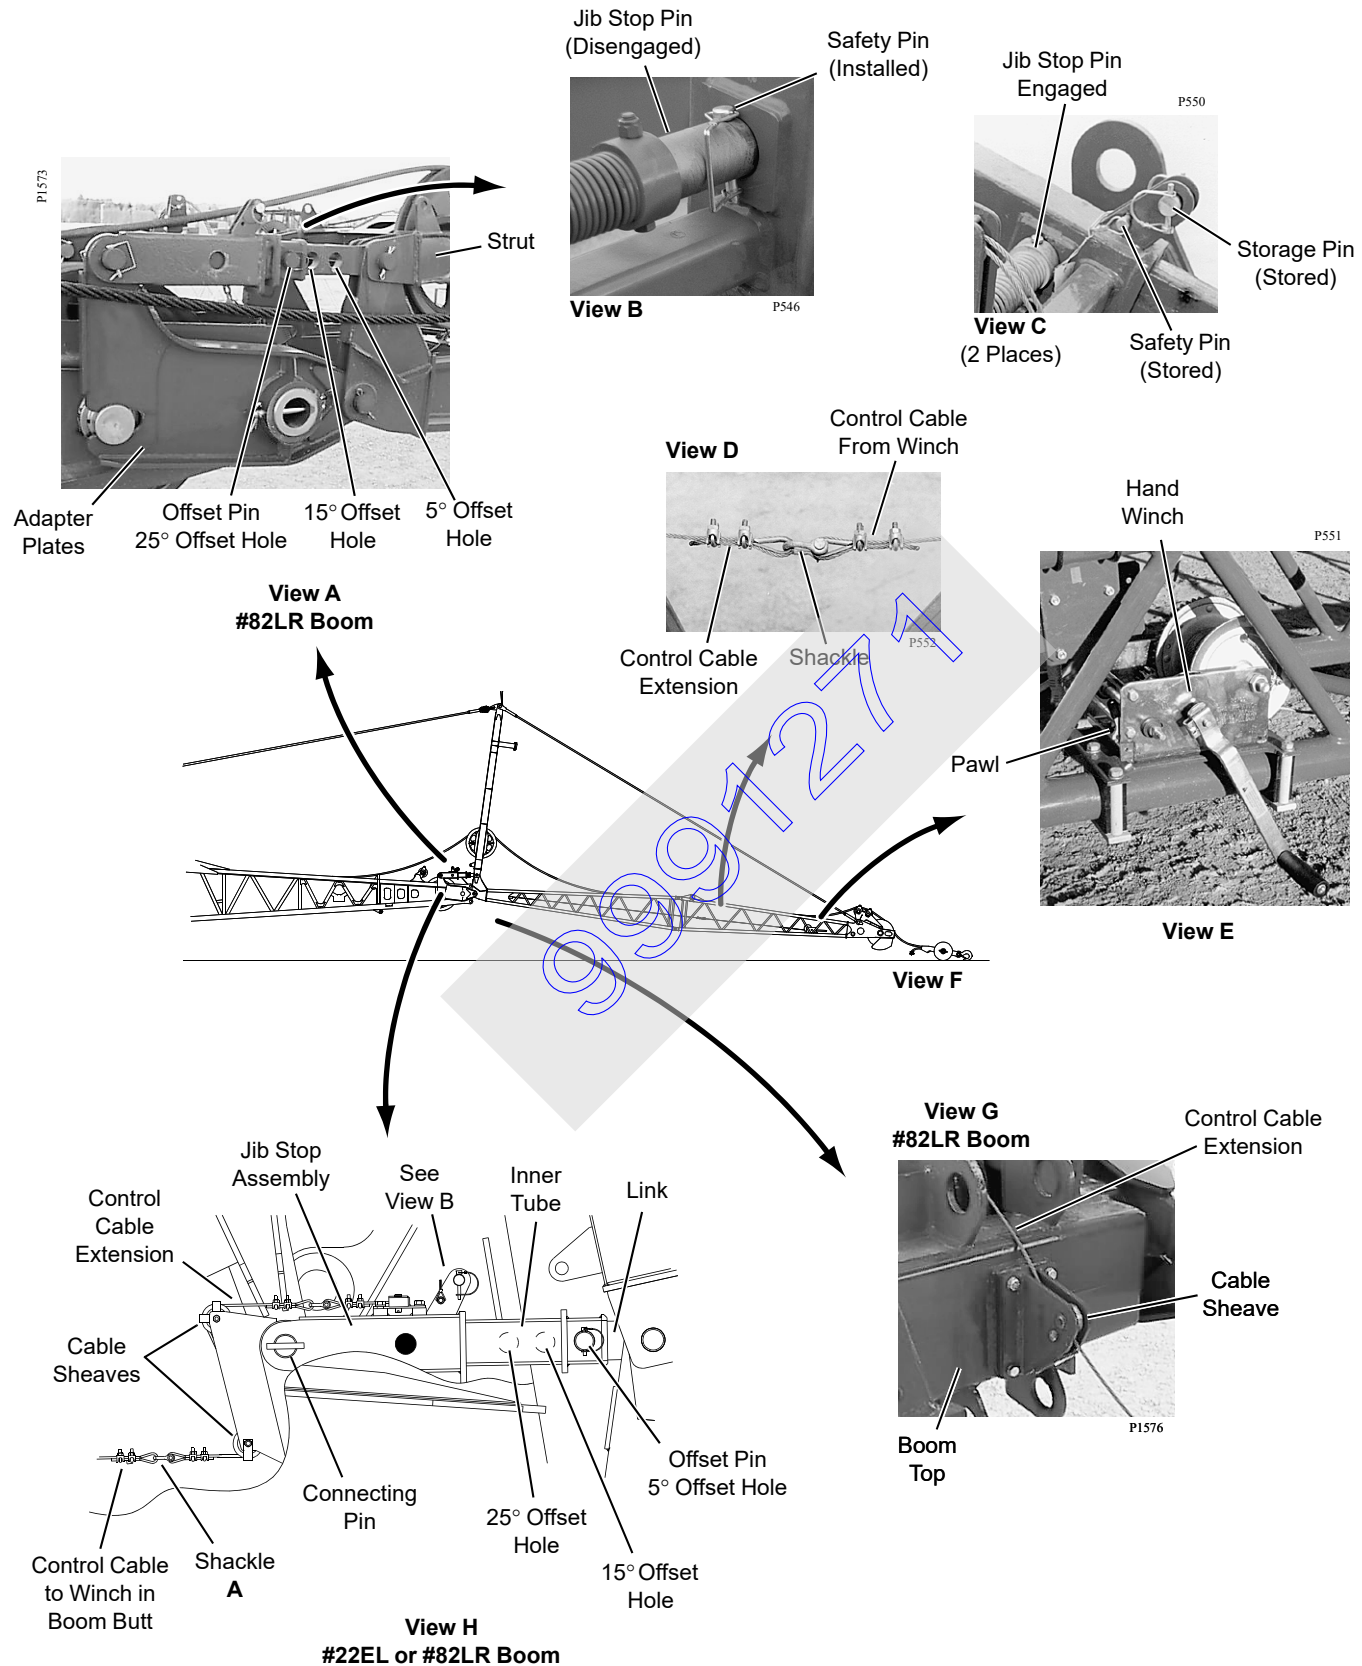

FIGURE 4-46
See Figure 4-46 for the following procedure.
3. Install safety pins (Figure 4-46, View B).